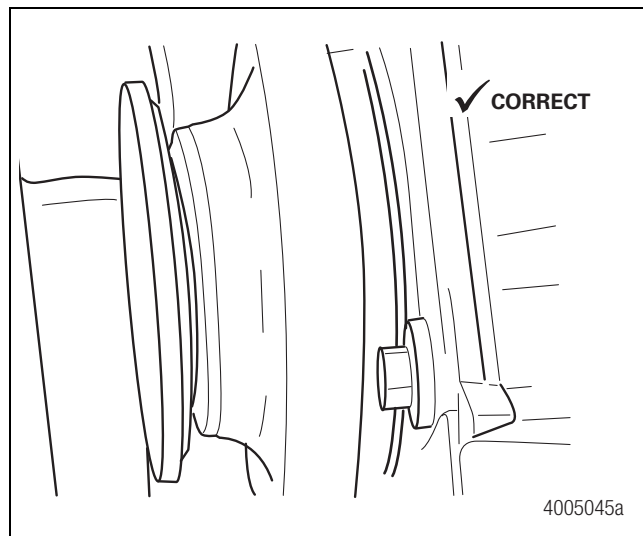
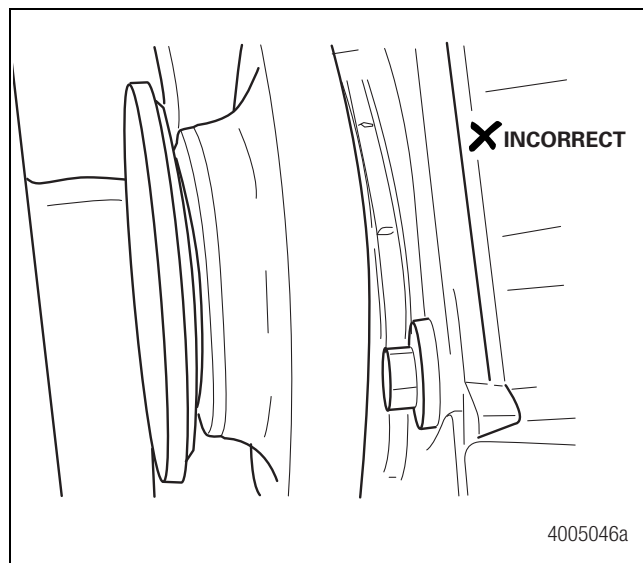
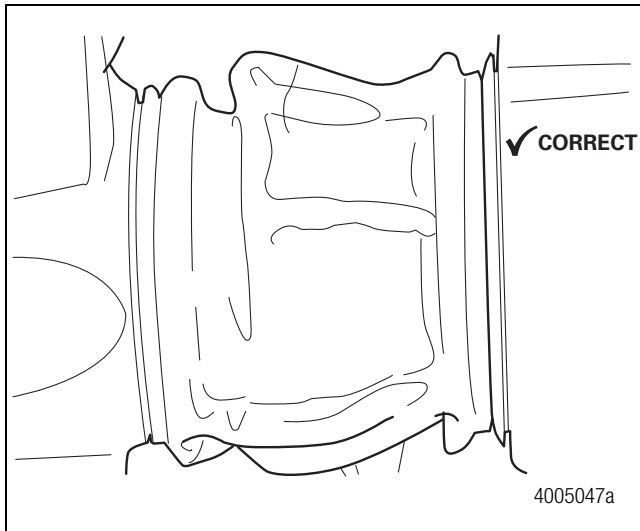

Figure 4.11
Figure 4.12
Figure 4.13
12. With the pads removed, visually inspect the caliper slide pin boots and piston boots. All slide pin and piston boots should be free from damage and should be correctly seated. Figure 4.11, Figure 4.12 and Figure 4.13.